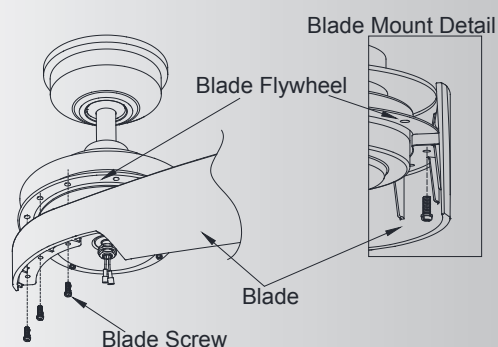

Fig. 18
**Step 1.** Align the 3 holes of each blade and blade flywheel on the motor body and securely tighten the screws (3 per blade) provided. (See Blade Mount Detail) (Fig. 18)